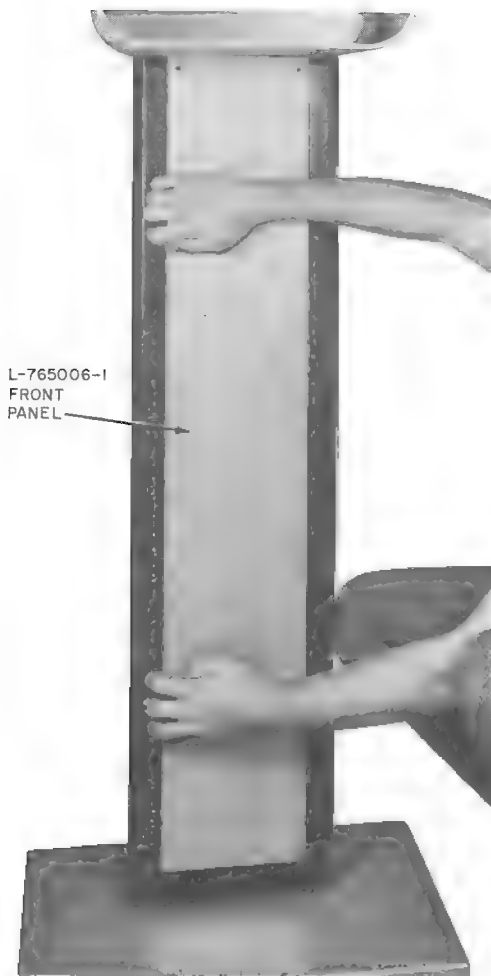

Fig. 10—Installing or Removing the Front Panel on Post Assembly
- (1) Position the locking flange on right side of the front panel against the right-side opening of the post
- (2) Pull both top and bottom of the panel to the right at the same time (Fig. 10) until the flange on left-side of the panel drops past the opening on the left side of the post, then release the panel which will lock in place.
- (3) Using a KS-19192, List 1 wrench, install the two L-765065-2 flat head security screws (No. 10-32 by 1/2), removed in 3.03(9), through the upper part of the panel and into the post.